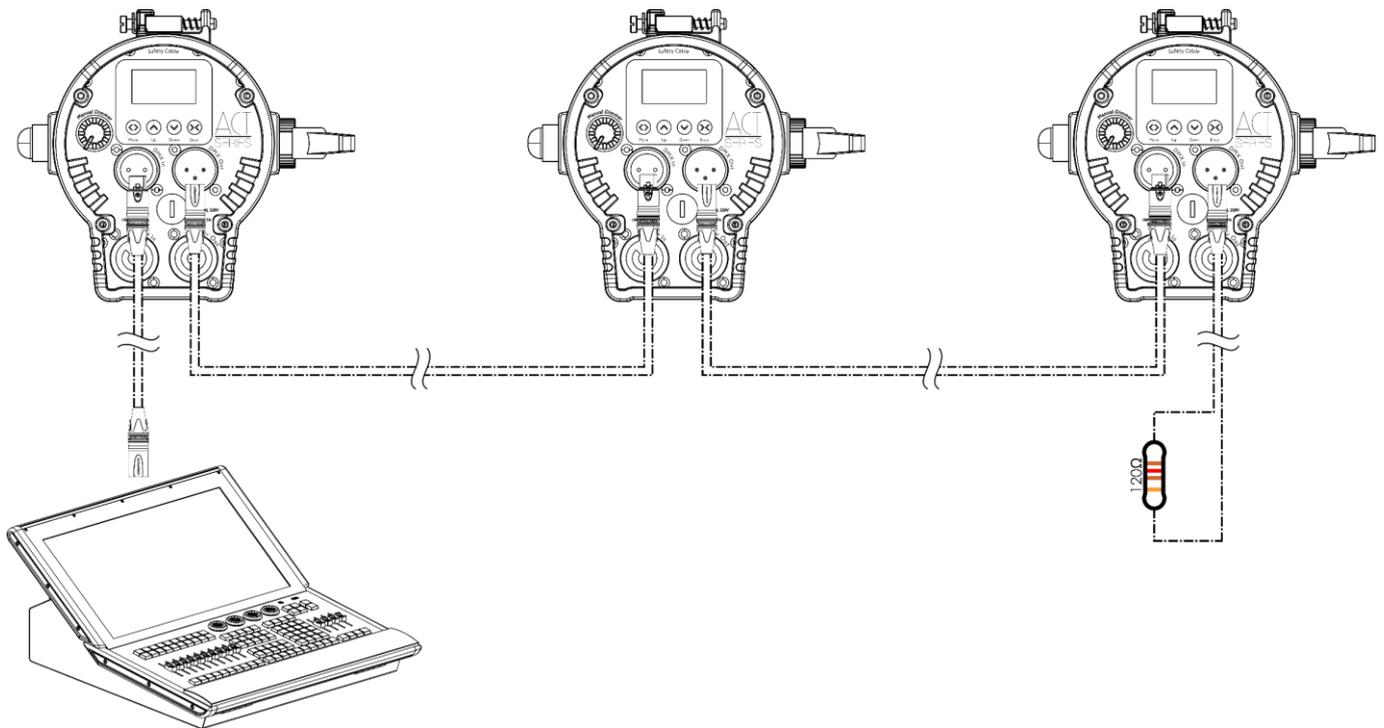

Fig. 13
- 04) Link the units as shown in Fig. 13. Connect a light controller to the first unit's DMX "in" socket, using a DMX cable. Connect the first unit's "out" socket with the second unit's "in" socket, using a DMX cable. Repeat this process to link the rest of the units.